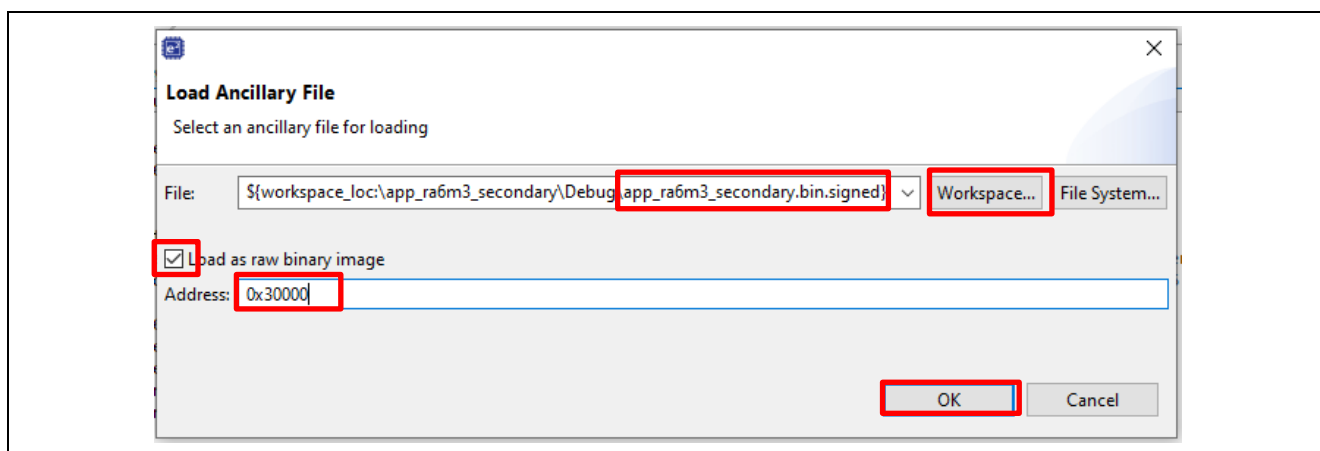

Figure 39. Load the Secondary Application Image for Overwrite Mode
Erase the entire MCU flash prior to proceeding to the following steps. This can be done using J-Link Flash Lite. Launch J-Flash Lite and select the RA6M3, as shown in Figure 39.
2. Load the new application images to the Secondary slot region using the Ancillary loading capability  from the top of the e² studio toolbar in a similar way as Figure 39. Select **Load as raw binary image** and configure the **Address** to 0x38000.